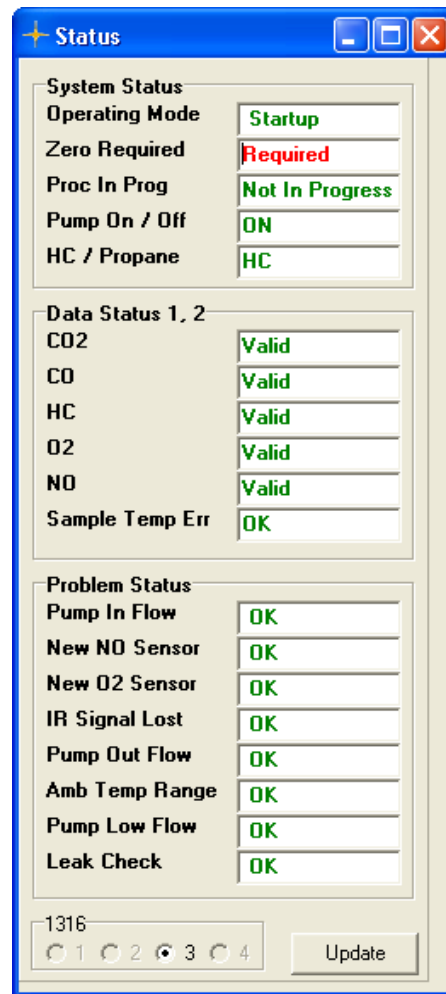

Figure 4.6. Status Window displaying Operation Mode "Start up".
1. The Multi Gas Monitor –INNOVA 1316A-1 is in Start-Up mode, see figure 4.6, Operating Mode.